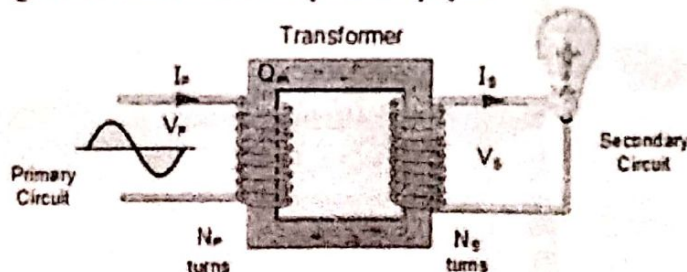

FIGURE 5A
5. A. The nameplate of the electrical transformer shown in FIGURE 5A reads 33-KVA, 3300/110-V, 50-Hz. Calculate the turns-ratio of the transformer. What AWG size wires, in your humble opinion, are being used for primary and secondary windings? Use Table 1 given at the end of the question paper. [2]